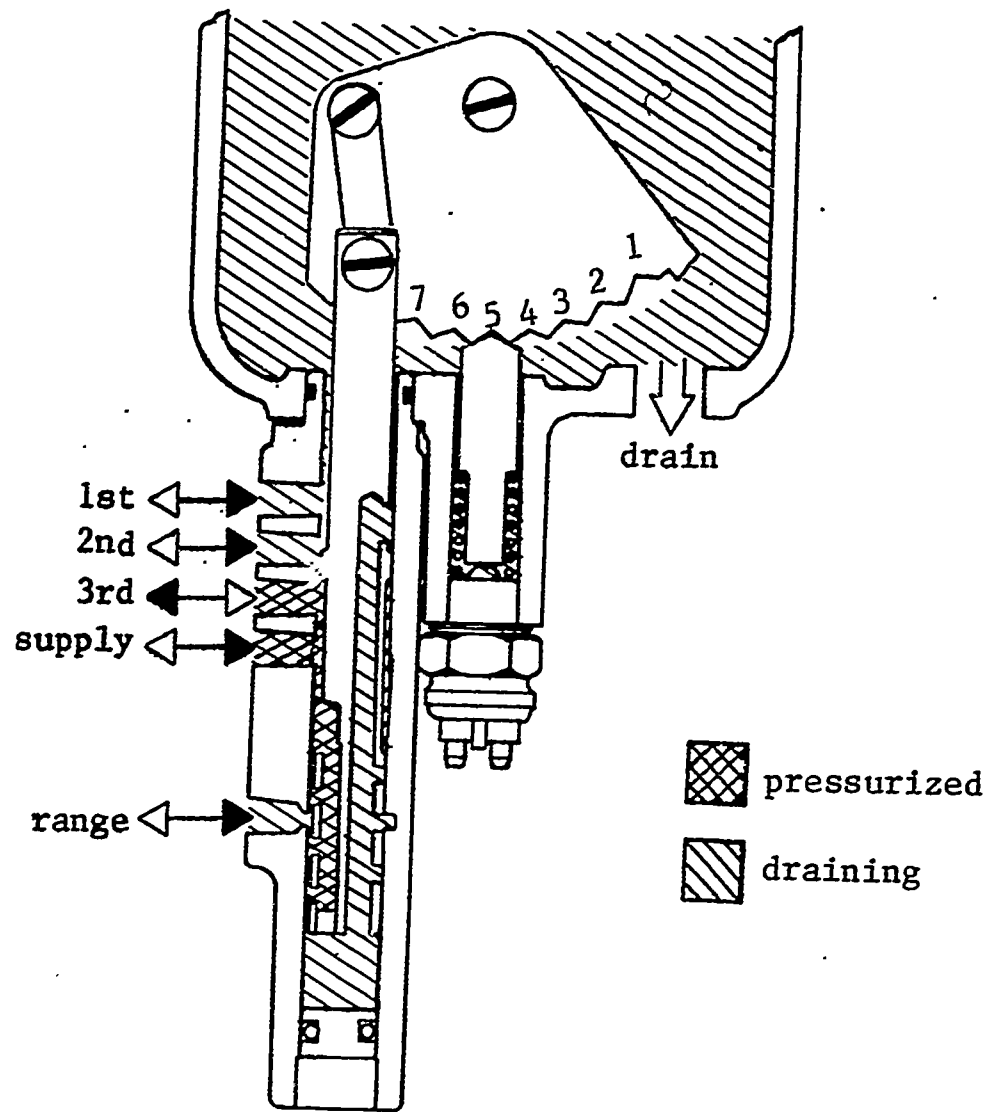

Fig. 7 Control valve in fifth gear
Figure 7 shows the shift control valve in fifth gear position or third reverse. There is pressure in hose (3) only. Hoses (1), (2), and the range hose are draining off.